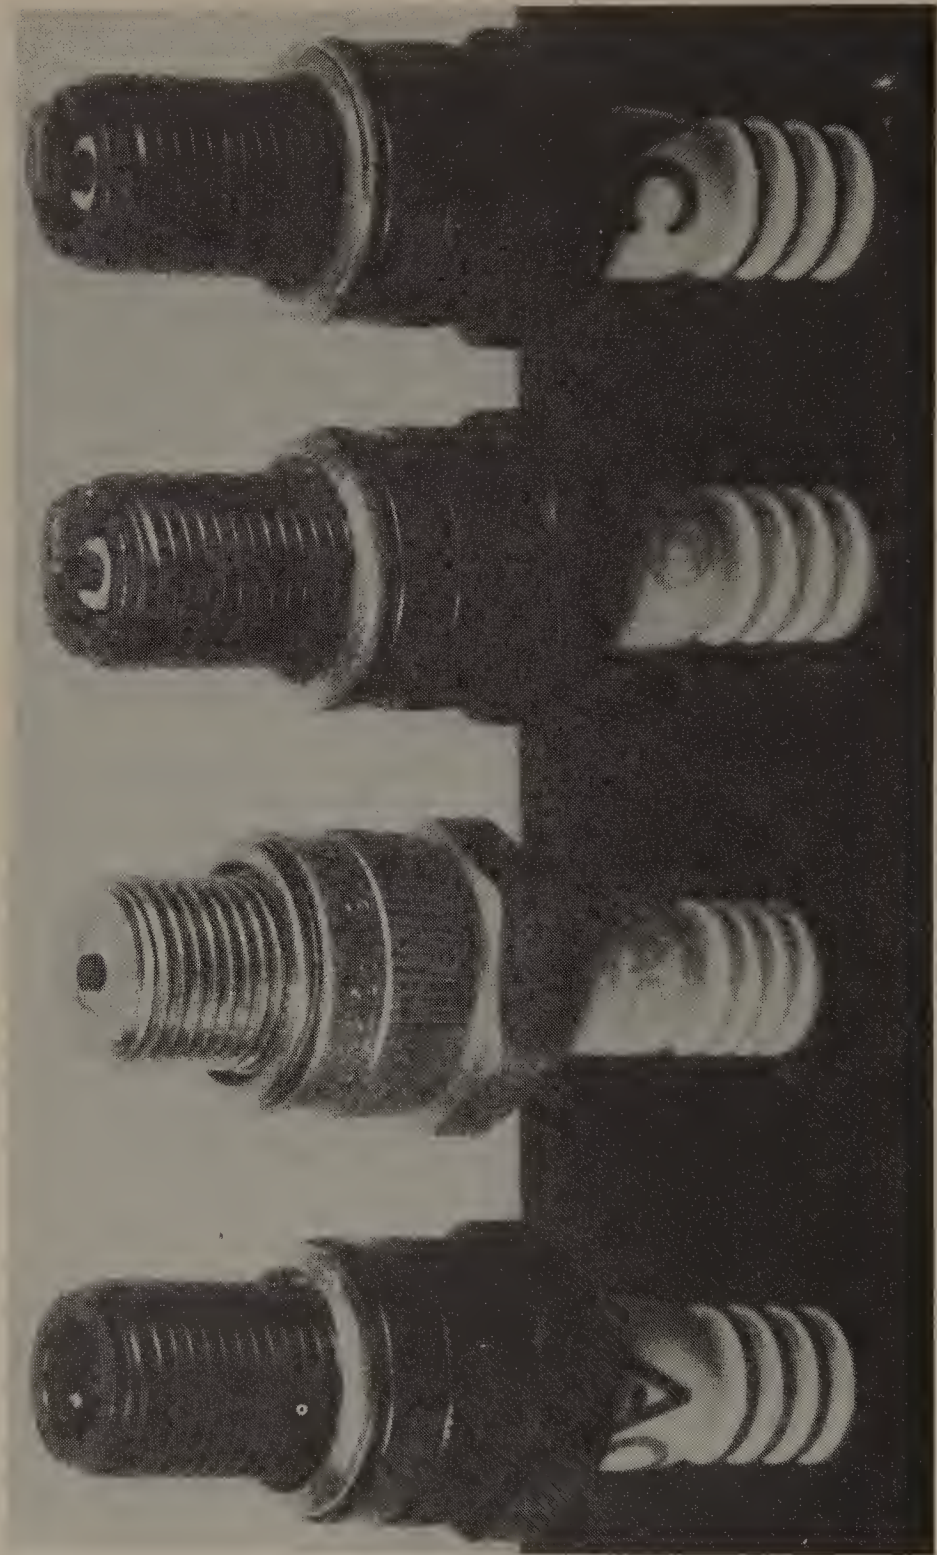

Fig. 2-2. Four most-common spark plug gap configurations. (Photo courtesy AC Spark Plug Div., General Motors.)
There are many styles of spark plugs, as shown in Fig. 2-2. Reading from left to right in the photo, the first type is rarely seen except at race tracks; this pin gap type is used in ultra-high compression engines where there's very little room in the combustion chamber. The second from left is the plated plug, surface gap type; there isn't an air gap—the spark jumps from the insulator to the grounded shell. The second type is found in two-cycle engines with capacitance discharge (CD) ignition. The third plug is the clipped or J-gap, used in many small engines. Because the side electrode extends only halfway across the center electrode, this plug is less liable to foul. The fourth plug, of course, is a standard automotive type.